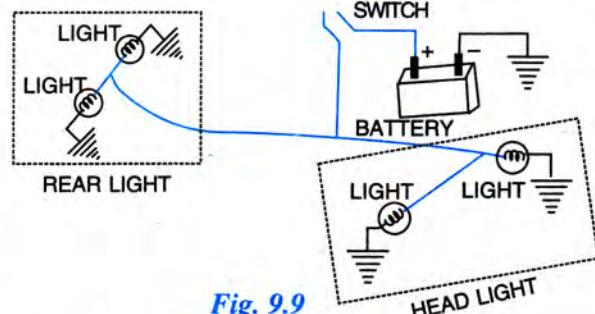

Fig. 9.9
- (ii) The two rear lights are connected in **series** so each light glows at half the voltage of the battery (if the resistance of filament of each bulb is same). Hence they glow faintly. They must be connected in **parallel** to glow properly as shown below in Fig. 9.9.